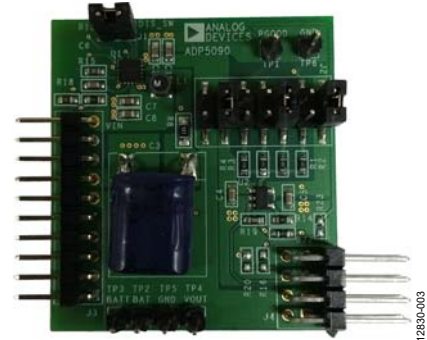

Figure 3. Jumper Setup
2. Connect the J2\_1 and J2\_2, J2\_9 and J2\_10, and J2\_11 and J2\_12 jumper pairs together on the ADP5090-2-EVALZ board, as shown in Figure 3.
3. Place the system in a bright environment. Monitor the voltage on the supercapacitor using the TP3 (BATT) and TP5 (GND) test points (see Figure 3).